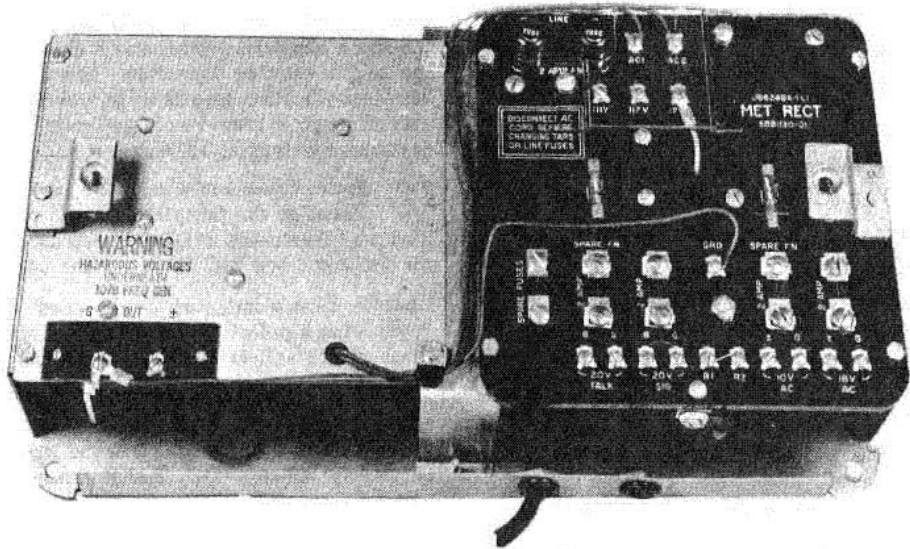

Fig. 1 — J86731A, List 4, Cover Removed
**2.01** The 101G power plants provide packaged small capacity ringing, low voltage ac and unregulated dc power supplies. Fig. 1, 2, 3, and 4 show views of some of the plants, while all of the various power plant codes, output and features are shown in Table A.
4.02 When the 107B frequency generator of the J86731A, List 4 power plant is equipped with a metal faceplate (Fig. 1), a *three-conductor power cord must be used and connected to a grounded power outlet, or a case ground must be provided.* When required to install the cord locally, connect the ground conductor (green) under the cord clip mounting screw inside the power plant.